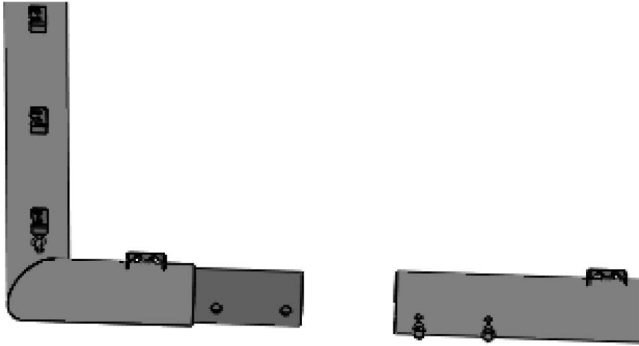

Figure 6A
5. Connect the end frames to the crossbar by sliding the crossbar over the channel (Fig. 6A). Make sure all net clips are facing toward the outside of the goal. Using (2) 3/8" – 16 x 1" serrated flange Hex Bolt, secure the Crossbar to each end frame (Fig. 6). All Bolts can now be tightened.